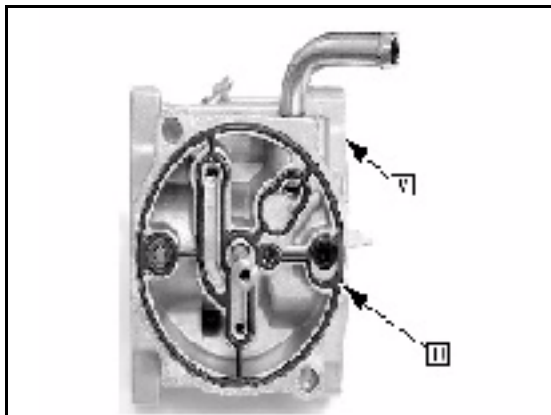

Fig. 147
18. Place gasket (U) on carburetor body ([V] Fig. 147).